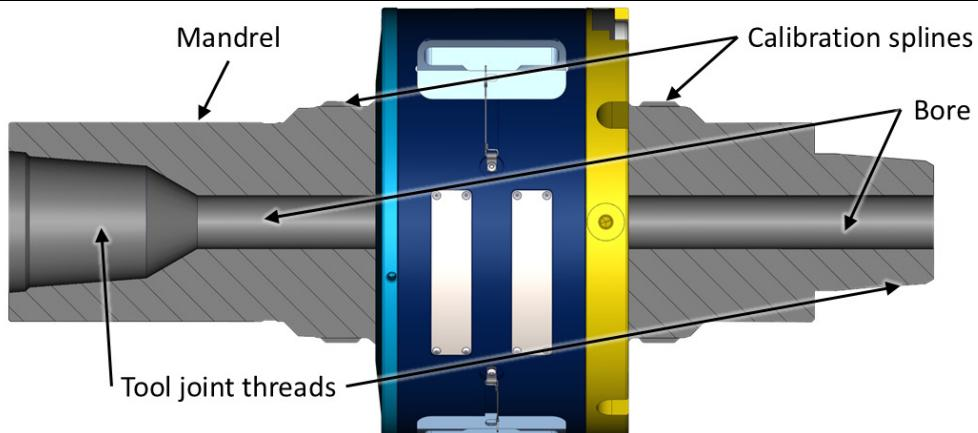

Figure 8-2: Mandrel Inspection Features
- 8.4.2.8 Visually inspect the Mandrel's calibration splines. See Figure 8-2. If the splines have any general wear or damage, contact Volant Customer Support at support@volantproducts.ca for guidance on addressing this.
Conduct MPI according to Section 8.4.7 of API Specification 8C on the Mandrel's tool joint thread roots, as shown in Figure 8-2 below.